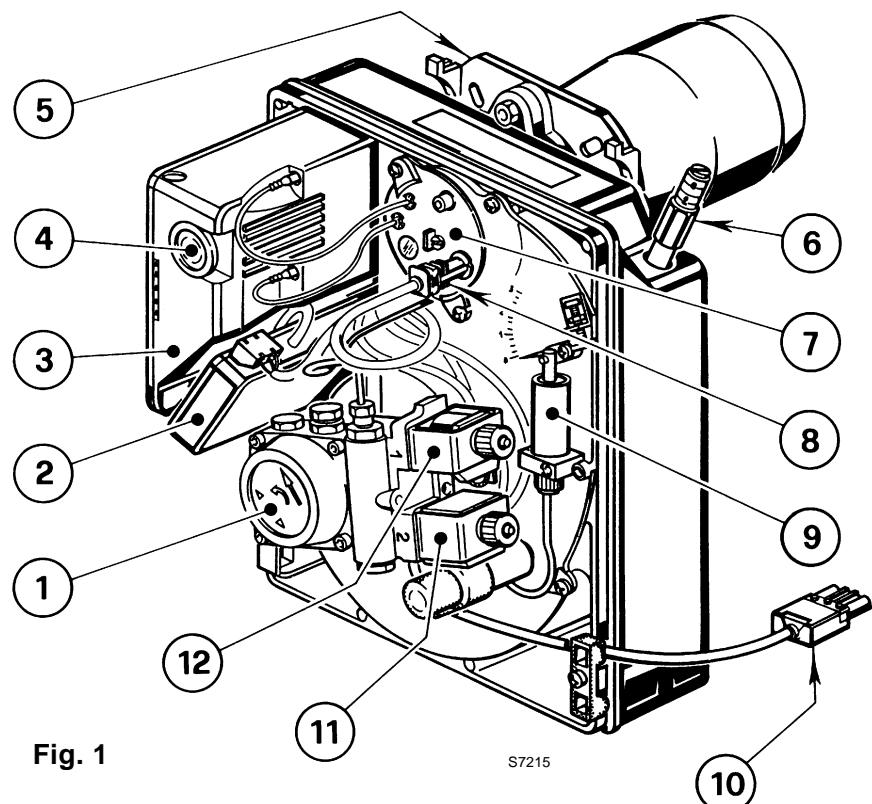

Fig. 1
C Lock out is indicated by a lamp on the control box (4, fig. 1, page 1).
- Clean the photoresistance, (8, fig. 1, page 1).
A fault usually makes the lock-out lamp light which is situated inside the reset button of the control box (4, fig. 1, page 1).